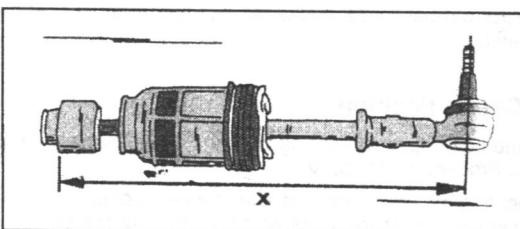

Fig. 6.5. — Before fitting the steering set the track rods to a length of 322.0 mm (dimension "X").
dimension "x" in Fig. 6.5. Correct the position of the end piece of the dimension is not exactly 322.0 mm. Tighten the locknut to 6.0 kgm (43.5 ft.lb.). Even if only one track rod end has been replaced or has been unscrewed, set the rod
- Fit the track rod ball joint the same number of turns and measure the length of the track rod as shown in Fig. 6.5. Make the necessary corrections.